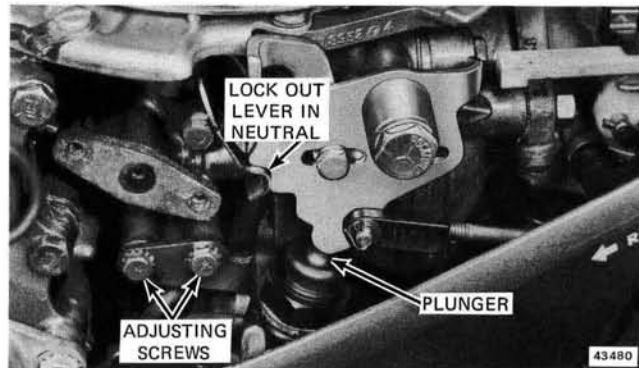

Figure 7-13. Start in Neutral Switch Adjustment
The neutral start switch opens the starter circuit, preventing accidental engaging of the starter motor, whenever the shift lever is in gear. The switch is operated by a plunger which rides on a cam operated by the shift lever. See Figure 7-13.
5. If switch adjustment is required, remove and swing fuel pump out of way. Loosen start in neutral switch screws. Center plunger on switch with lobe on lockout lever (gearshift in neutral) and raise switch to depress plunger between .090 to .150 inch (2.29 - 3.81 mm). Tighten screws. See Figure 7-13. Press starter button and continuity light should light. Shift into forward and reverse. Light should go out before engaging forward or reverse.